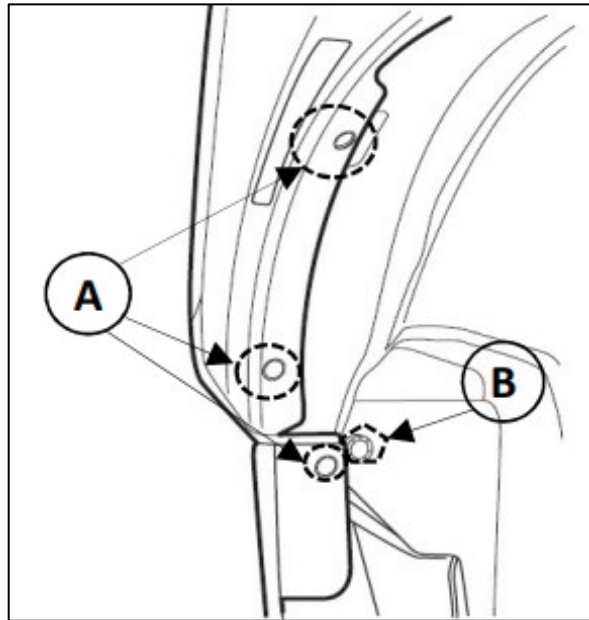

Figure 1
2. Remove the Bolts and Clips securing the front of the Fender Liner to the Front Bumper. *Figure 1.*